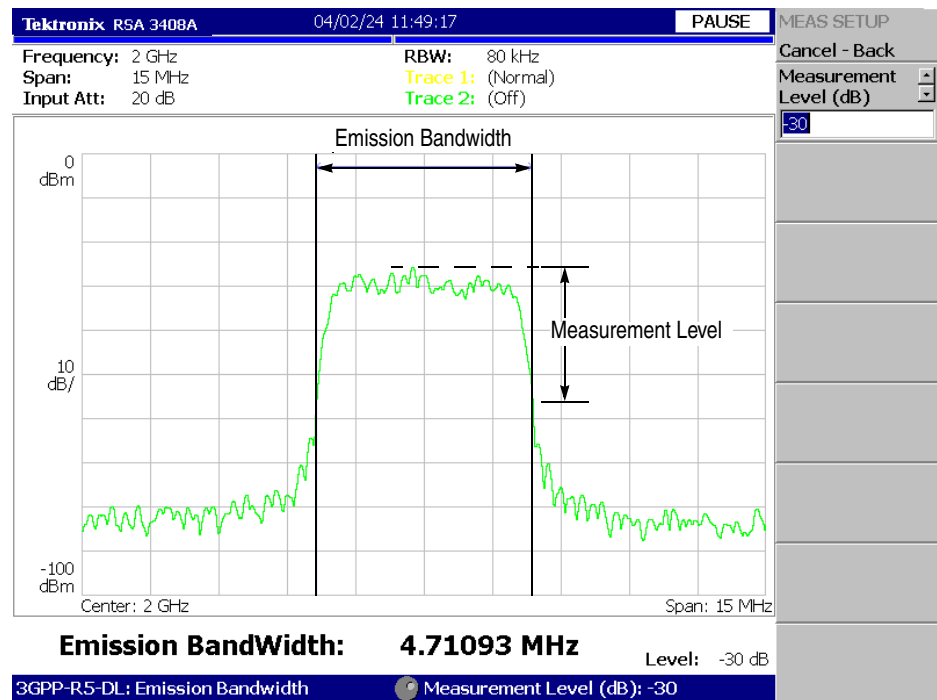

Figure 2-6: EBW measurement
**Measurement Level.** Specifies how far down from the peak level the bandwidth is measured (see Figure 2-6). Range: -100 to -1 dB (default: -30 dB).
Figure 2-6 shows an example of the EBW measurement.